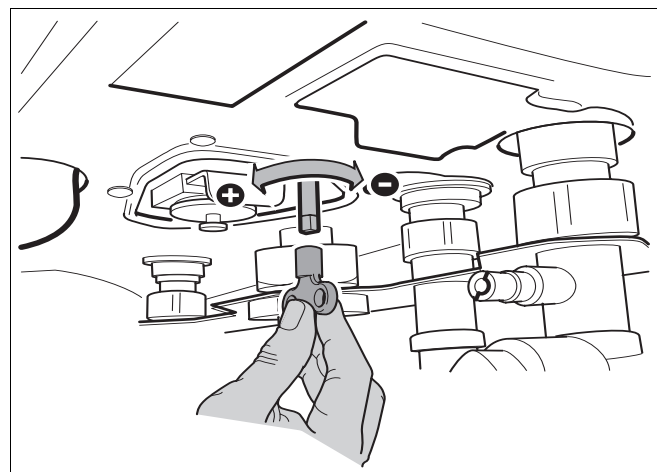

fig. 48 DHW flow regulator
The DHW flow regulator is located on the bottom frame of the boiler (see fig. 48).
- Adjust the DHW flow regulator (fig. 48) to the desired setting: